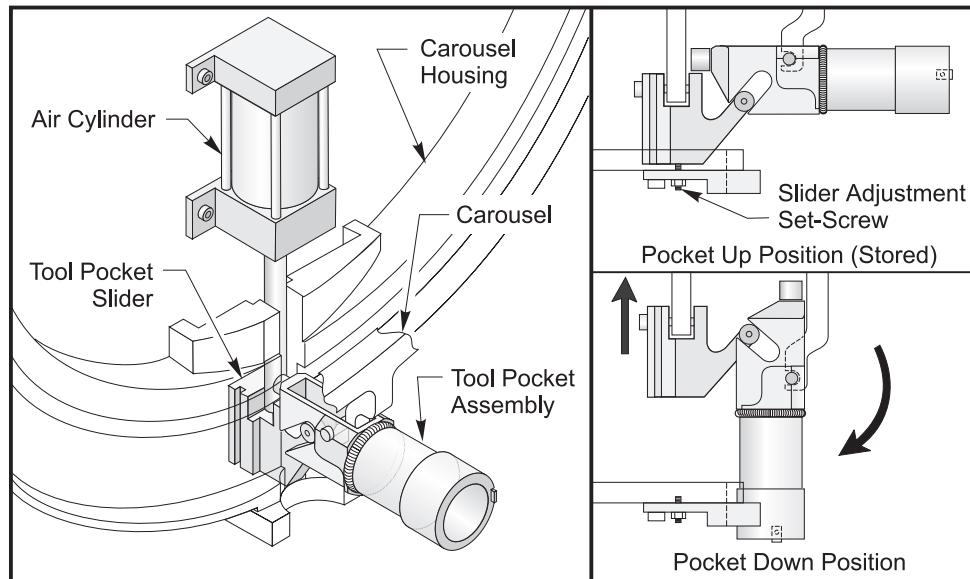

Figure 3-75 Tool Pocket Orientation / Set-Screw Adjustment
2. Visually check for mis-alignment (tool pockets should move smoothly). Refer to Figure 3-75
4. Loosen the double nuts retaining the proximity switch. Carefully remove the proximity switch from the cam box assembly. Refer to Figure 3-75.